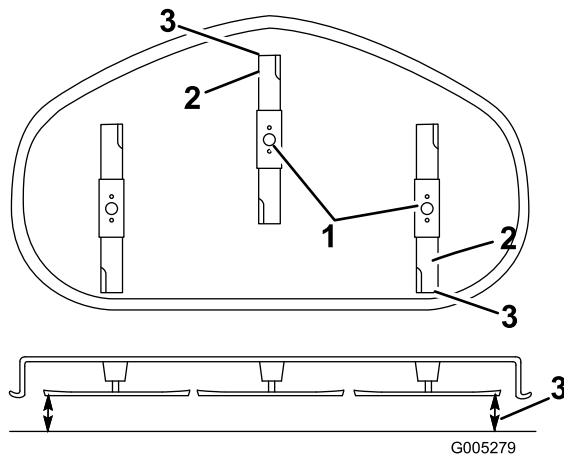

Figure 43
5. Set the height-of-cut at position **D** [3 inch (76 mm)] and carefully rotate the blades so they are facing front to rear (Figure 43).
- Measure from the tip of the front blade to the flat surface and the tip of the rear blade to the flat surface (Figure 43). If the front blade tip is not 1/16-5/16 inch (1.6-7.9 mm) lower than the rear blade tip, adjust the front locknut.
is 1/16-5/16 inch (1.6-7.9 mm) lower than the rear blade tip (Figure 43).